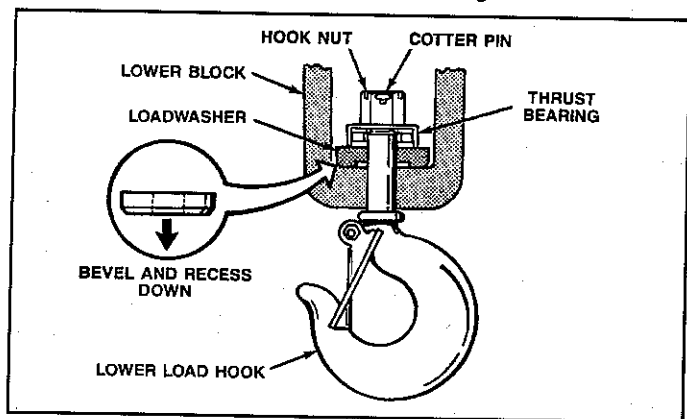

Figure 7-2. Installation of Load Washer (3 Through 6-Ton)
b. Lower Block Assembly. When installing load hook in lower block body, the load washer (3 through 6-ton models) must be positioned over the hook shank with beveled and recessed side facing down as shown in Figure 7-2. The thrust bearing must be installed over load washer with stamped shield side facing up. Lubricate shank of hook and thrust bearing.